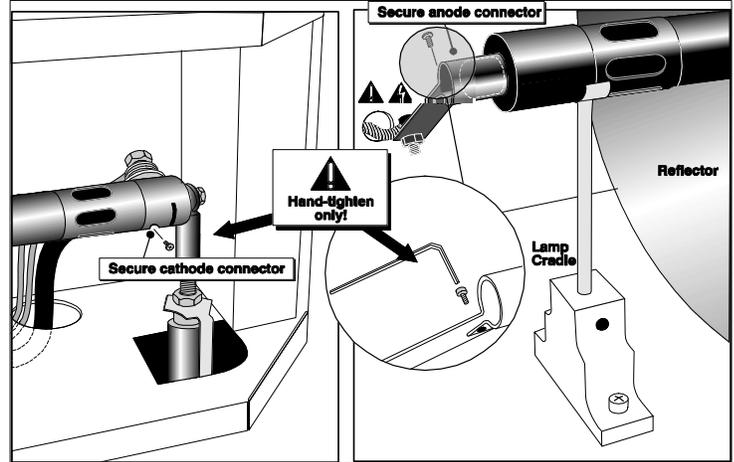

Figure 4-2 Secure Bulb at Cathode (-) and Anode (+) Connectors
- Loosen set screws from negative/cathode (rear, 7/64") and positive/anode (front, 3/16") lamp connectors. These screws are shown in **Figure 4-2**. ***Make sure to apply minimal torque and DO NOT STRESS the quartz tube.***
- c. Tighten setscrews in both negative and positive lamp connectors (**Figure 4-2**). **Important!** *Proper electrical contact prevents resistance in the lamp connectors. If you accidentally touch the quartz body of the lamp with your bare hands, clean it as described in Section 4.1 Maintenance and Cleaning.*